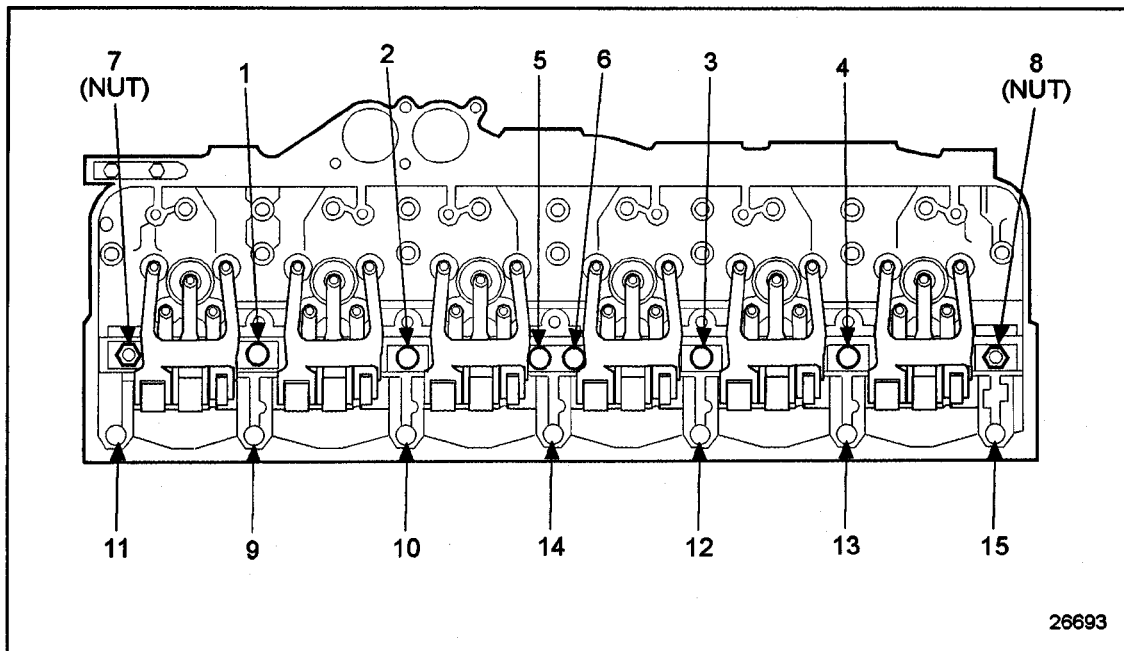

Figure 1-350 Camshaft Cap Bolts and Rocker Arm Shaft Nut Torque Sequence
7. Torque the 11 bolts and two nuts to 101-116 N·m (75-85 lb·ft) using the sequence. See Figure 1-350.